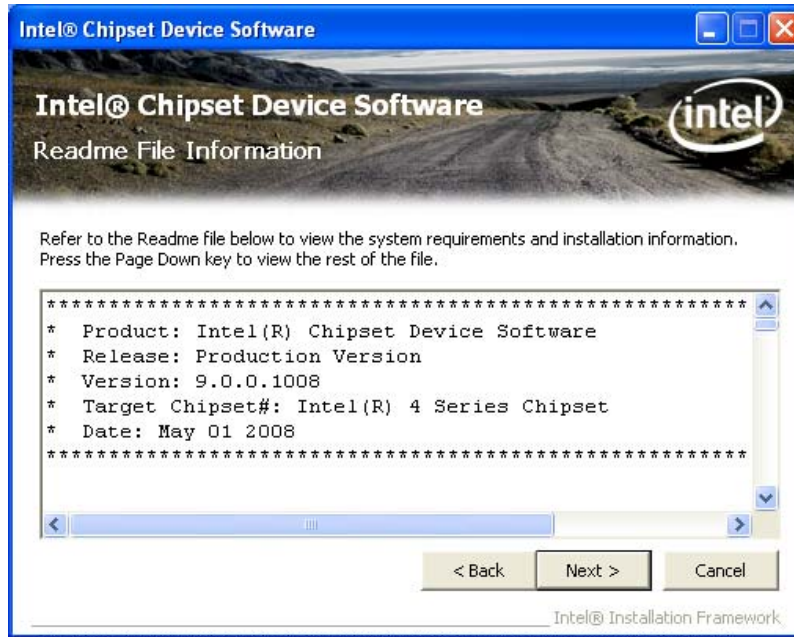

Figure 6-6: Chipset Driver Read Me File
Step 10: The Read Me file in **Figure 6-6** appears.